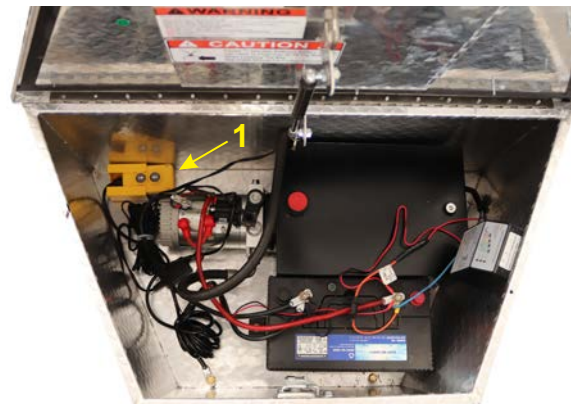

Figure 3-18 – Hydraulic Controller Location
- f. Locate the dump body controller (1, Figure 3-18). While using the dump body controller, position yourself in a safe location clear of the dump body.